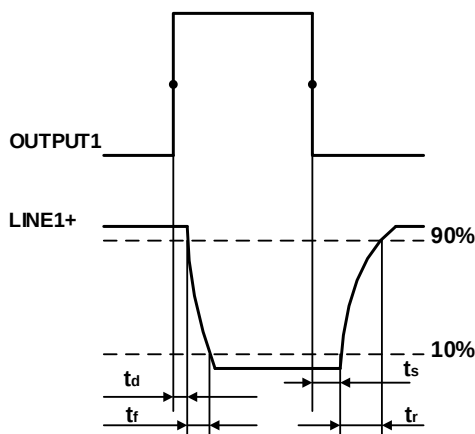

Figure 7-10 Parameter of opto-isolated output circuit
- Rising time delay =  $t_d + t_f$ : <50μs (0°C~45°C) (parameter description is shown in Figure 7-10)
- Falling time delay =  $t_s + t_r$ : <50μs (0°C~45°C) (parameter description is shown in Figure 7-10)